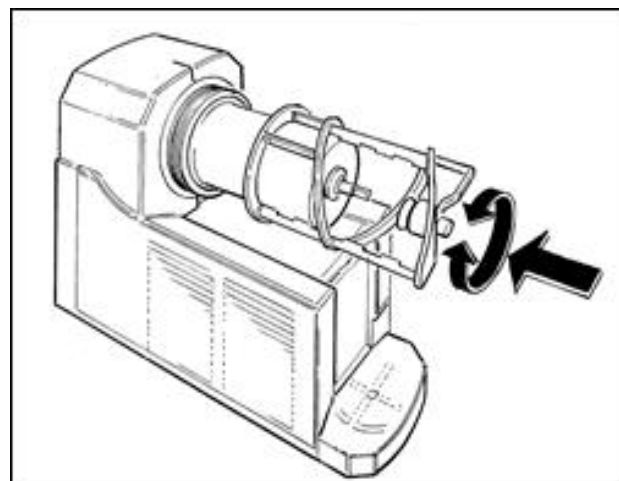

Fig. 44
- Reassemble the mixing unit making sure that the frontal cylinder perfectly fit inside its rotating shaft seat (Fig. 44).